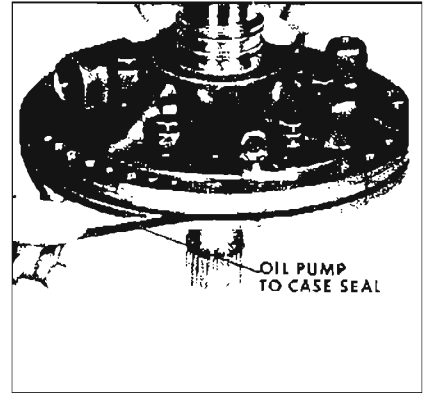

Figure 5-202
4. Install new oil pump to case seal. See Figure 5-202.